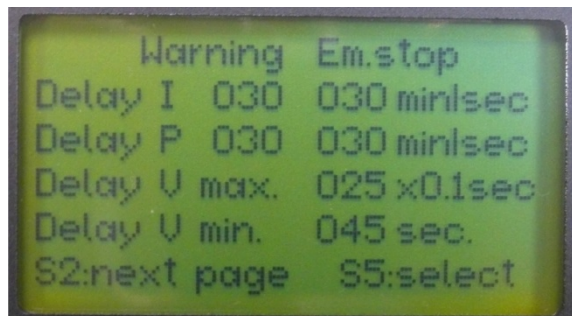

Figure 22: Delay times for warnings/ emergency stop
- Certain shutdown delays apply (see Figure 22: Delay times for warnings/ emergency stop)
- Extended usage above warning may also trigger shutdown (see Figure 22: Delay times for warnings/ emergency stop).